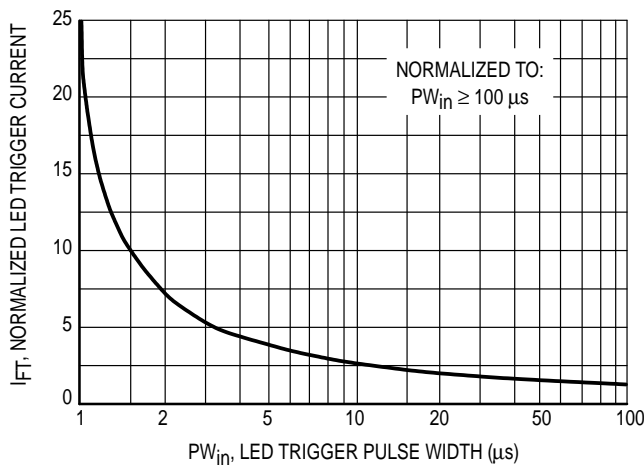

Figure 11. LED Current Required to Trigger versus LED Pulse Width
The Random Phase POWER OPTO Isolators are designed to be phase controllable. They may be triggered at any phase angle within the AC sine wave. Phase control may be accomplished by an AC line zero cross detector and a variable pulse delay generator which is synchronized to the zero cross detector. The same task can be accomplished by a microprocessor which is synchronized to the AC zero crossing. The phase controlled trigger current may be a very short pulse which saves energy delivered to the input LED. LED trigger pulse currents shorter than 100 μs must have an increased amplitude as shown on Figure 11. This graph shows the dependency of the trigger current I_{FT} versus the pulse width t (PW). The reason for the I_{FT} dependency on the pulse width can be seen on the chart delay $t(d)$ versus the LED trigger current.